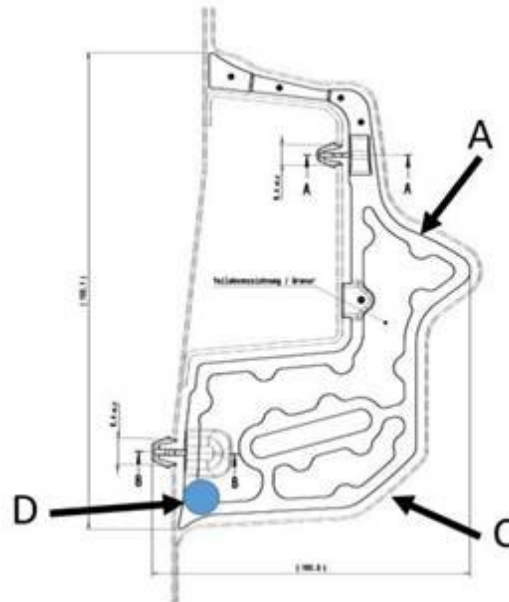

Figure 7. 8mm – 10mm hole to be made through the sound absorber.
9. Figure 7 shows a drawing of the sound absorber. The blue dot marked 'D' corresponds with a point through which a hole 8mm – 10mm in diameter will be made. This hole will allow for a normal flow of any accumulated water to reach the normal drainage and exit the sill cavity. The method for creation of this hole follows.
11. Guide the heated rod into opening number 4 from Figure 3 and melt a hole in the sound absorber in position 'D' from figure 7 (Figure 9).